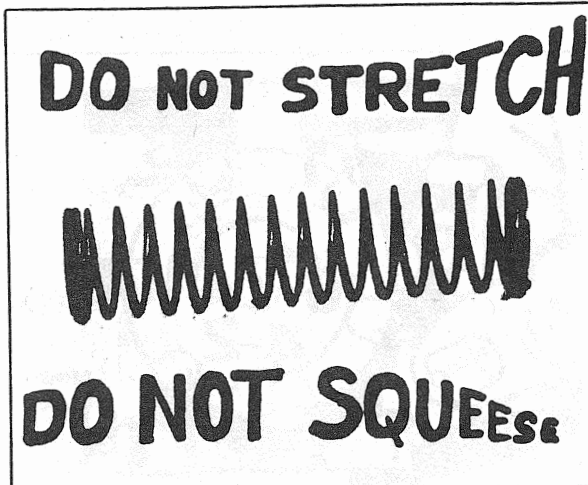

FIGURE 5
- Inspect the inlet control spring carefully, ensuring not to stretch or change the spring's characteristics. If in doubt about the spring condition, replace with the correct spring for the carburetor model. (Fig. 5).